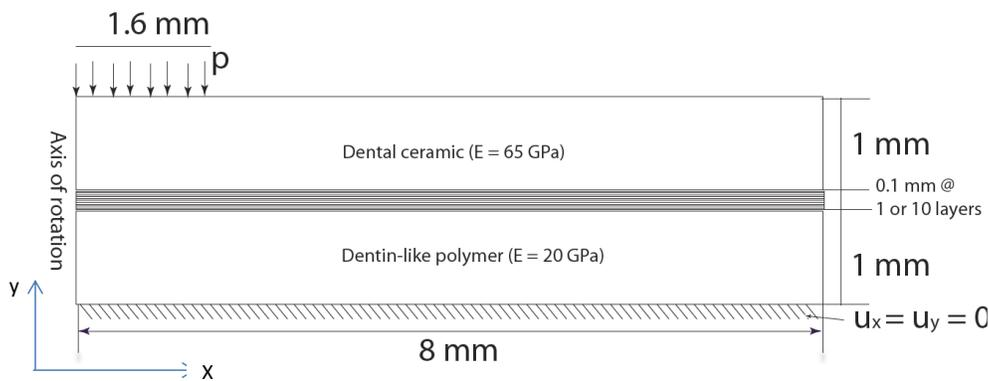

Figure 1. Schematic of dental restoration.
In this project we compare three different configurations for dental crown restoration. Figure 1 shows the schematic of a dental restoration. The top and bottom layers resemble the properties of enamel and dentin, respectively. We investigate the effect of the connective layer that substitutes the dentin-enamel junction (DEJ) in real teeth. This layer transmits loads from enamel to dentin and the gradual change of material properties reduces stress concentrations.
We analyze a cylinder with the axis of rotation (cylindrical symmetry) at $x = 0$. The dimensions, material properties, and boundary conditions are shown in figure 1. For simplicity we use Poisson ratio, $\nu = 0.3$ for all materials in our simulations. The boundary conditions are:
2. Material: We define 12 materials (for cases I and III) and 3 materials for case II based on the values given in figure 1 and Table 1.
3. Element type: We use the element type "Solid 8 node (183)" for all simulations. Make sure axisymmetric is chosen through the options provided for this element.
5. Boundary conditions: Boundary conditions are shown in figure 1.